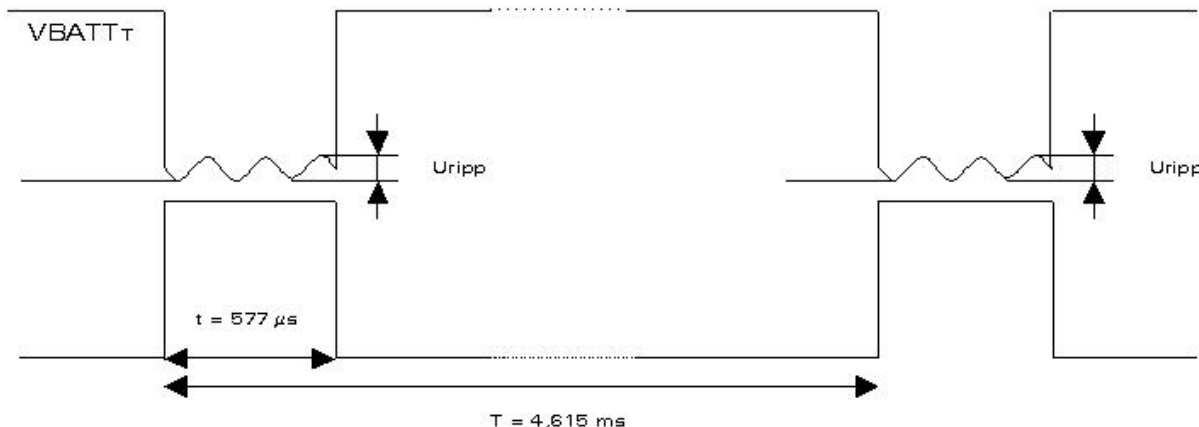

Figure 2. Power Supply During GSM Burst Emission
- GSM/GPRS class 2 terminals emit 577µs radio bursts every 4.615ms (refer to Figure 2 Power Supply During GSM Burst Emission)